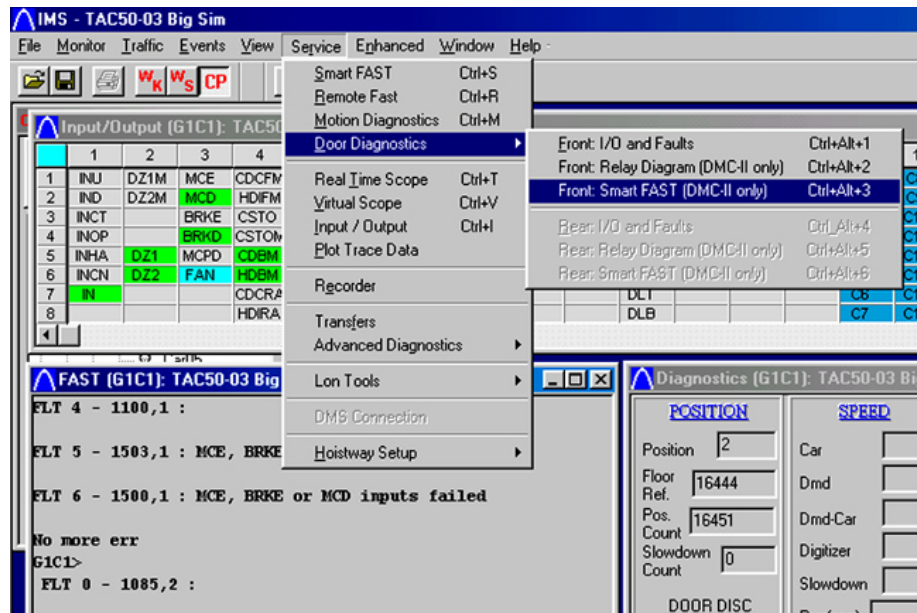

Figure 17 - IMS Window, Service Tab
4. Click on the UDC Icon, or from the IMS Menu Bar click Service->Door Diagnostics->Front (or Rear) Door Smart FAST as appropriate. See Figure 17 on page 40.